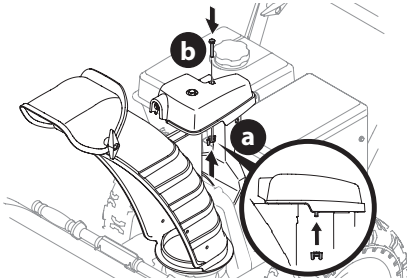

Figure 15
- Finish securing chute control head to chute support bracket with wing nut (a) and hex screw (b) removed in Step 1 (Figure 15).